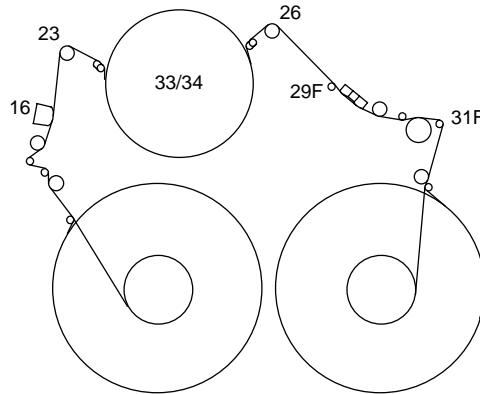

Fig. 22
- Umlenkrolle des linken (Pos. 23, Fig. 22) und rechten (Pos. 26, Fig. 22) Fädelschlittens mit dem Einstellschraubendreher so einstellen, daß die Amplitude der FM-Pakete maximal und geradlinig ist.
- Adjust the reverse roller of the left (Pos. 23, Fig. 22) and right (Pos. 26, Fig. 22) threading roller unit to obtain the maximum amplitude of the FM-packages with straight-lined envelope.
- Measure the tape tension between the full-track erase head (Fig. 22, Pos. 16) and the reverse roller (Fig. 22, Pos. 23) by means of the tentelometer (for this press the full-track erase head to the left).